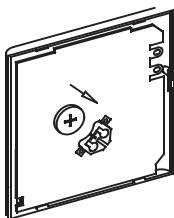

Fig. 8 — Battery Installation
1. Place the battery in the unit and ensure the positive side of the battery is in accordance with the polarity markings (see Fig. 8).